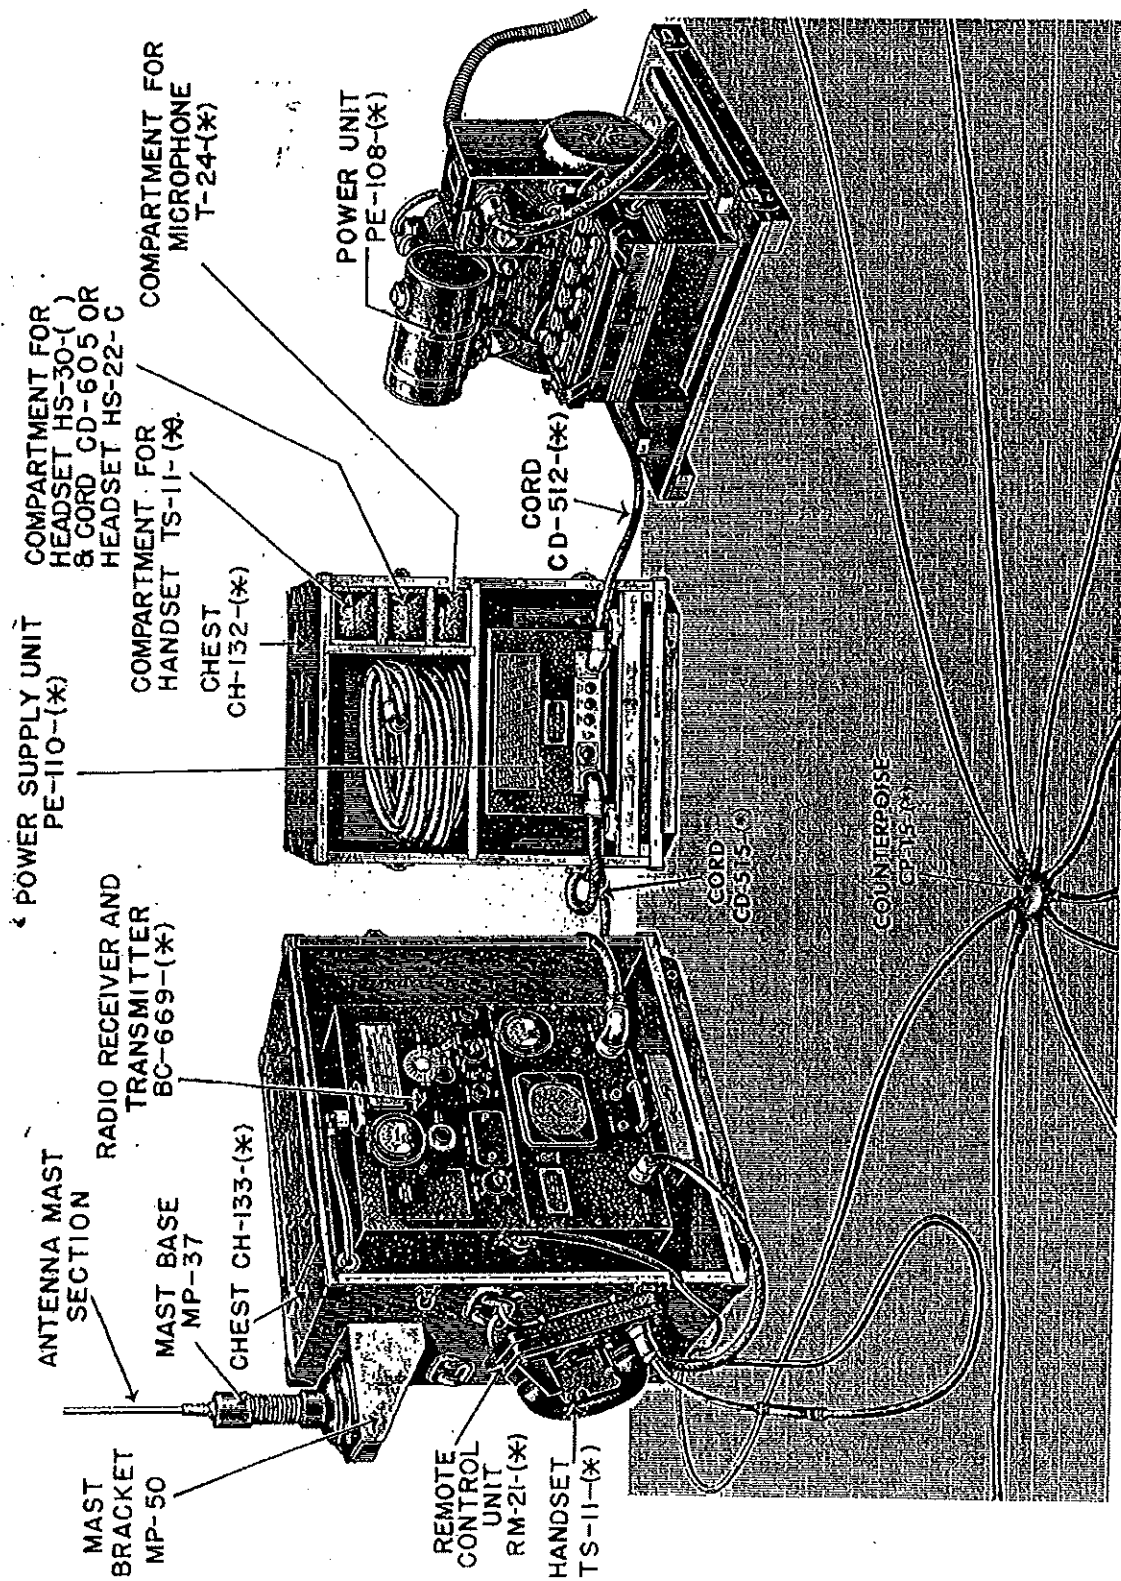

Fig. 2 - Radio Set SCR-543(*), Operating Components.
2. **COMPONENTS, WEIGHTS AND DIMENSIONS.**—(See figures 2 and 6) Radio Set SCR-543-(*) is composed of four chests with contents. These are:
the front panel for indicating modulator plate current, radio frequency power amplifier plate current or grid current which may be selected with a three position switch recessed behind the panel below the meter. A removable plate is provided to cover the recess. A handle is provided on the upper and lower panels for lifting the unit. (See figures 2 and 3.)